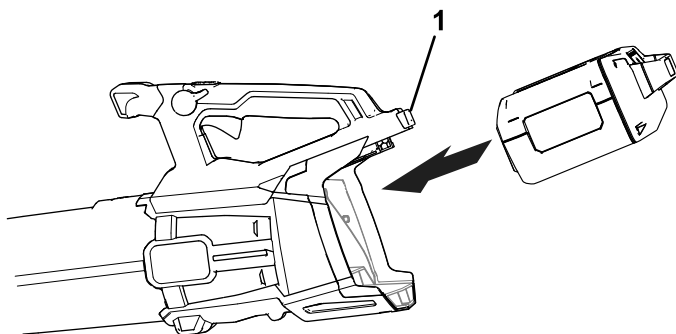

Figure 8
3. Grasp the handle, and push the battery pack into the handle until the latch locks into place (Figure 8).